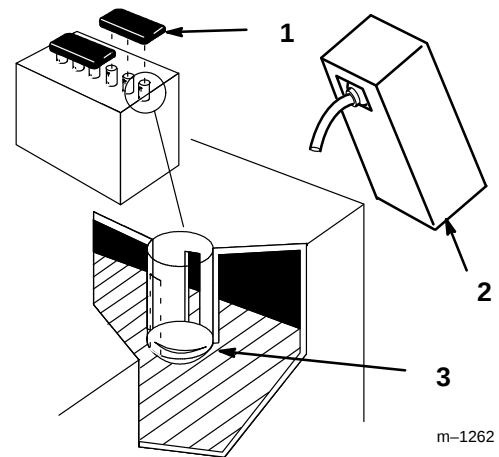

Figure 5
2. Remove filler caps from the battery. Slowly pour electrolyte into each cell until the electrolyte level is up to the lower part of the tube (Fig. 5).
- Slowly pour electrolyte into each cell until the level is once again up to the lower part of the tube and install covers (Fig. 5).